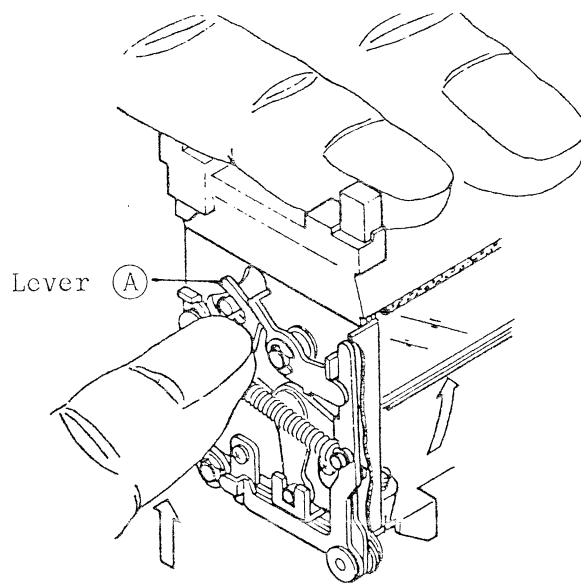

Fig.15
3. Put the focusing screen frame on the mirror housing and hold it with your left hand index finger. (Fig. 15)
4. Set the mirror back to viewing position once by depressing the (A) - lever with your left hand thumb. (Fig. 15)